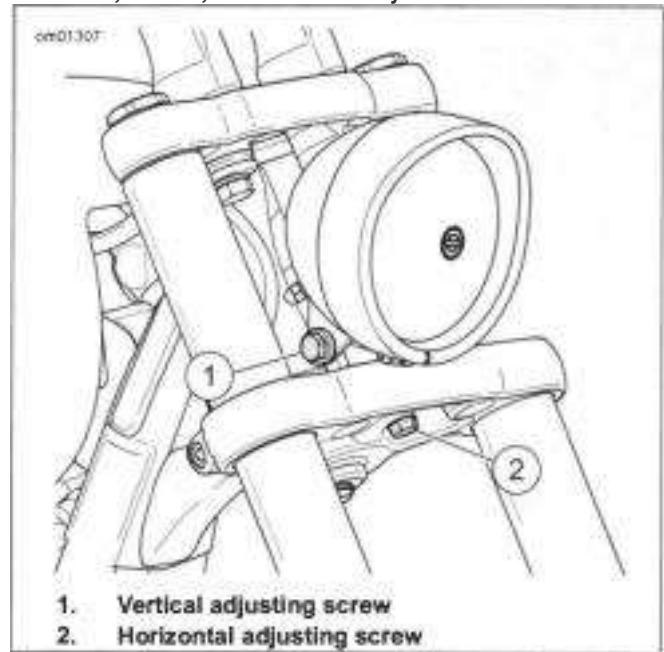

Figure 7-60. Headlamp Adjustment
1. All except FLSB, FXLRS and FXLRST: See Figure 7-60. Loosen horizontal adjustment screw (2). Adjust headlamp horizontally to direct light beam straight ahead.